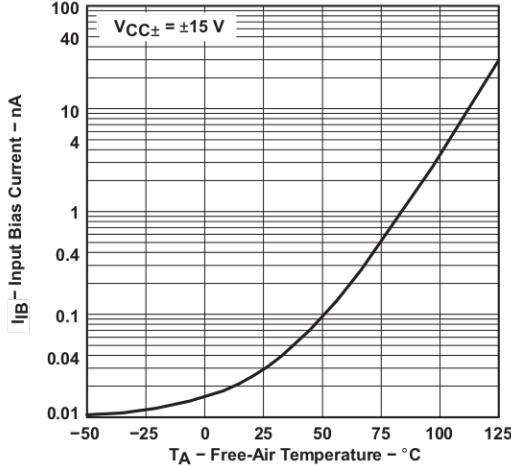

Figure 12. Input Bias Current vs Free-Air Temperature
(1) All characteristics are measured under open-loop conditions with zero common-mode input voltage, unless otherwise specified. Full range for  $T_A$  is  $0^\circ C$  to  $70^\circ C$  for TL06xC, TL06xA, and TL06xBC and  $-40^\circ C$  to  $85^\circ C$  for TL06xI.
(2) Input bias currents of an FET-input operational amplifier are normal junction reverse currents, which are temperature sensitive, as shown in Figure 12. Pulse techniques are used to maintain the junction temperature as close to the ambient temperature as possible.
(1) All characteristics are measured under open-loop conditions, with zero common-mode voltage, unless otherwise specified.
(2) This parameter is not production tested.
(3) Input bias currents of an FET-input operational amplifier are normal junction reverse currents, which are temperature sensitive, as shown in Figure 12. Pulse techniques are used to maintain the junction temperature as close to the ambient temperature as possible.
Input bias current versus Free-air temperature	Figure 12